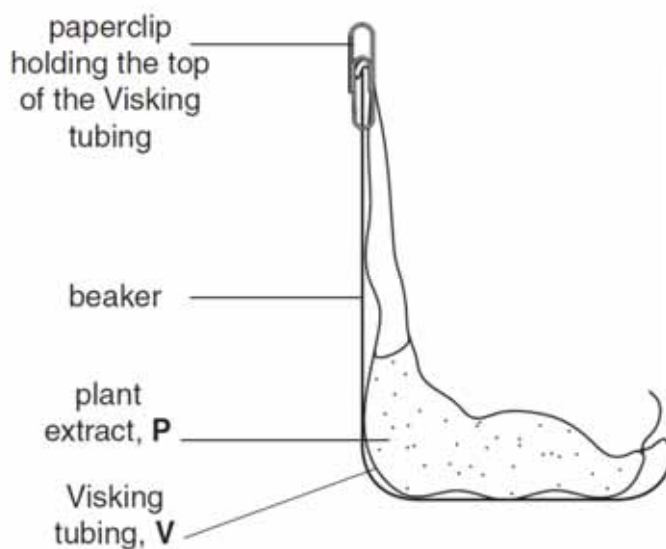

Fig. 1.1
Fig. 1.1 shows the apparatus before the water was added.
- (a) (i)** Water is added to the beaker in Fig. 1.1.
The apparatus in Fig. 1.1 was set-up and water was added and left for 15 minutes.